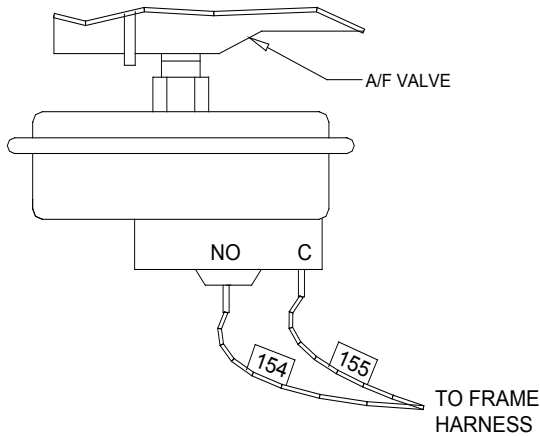

Figure 3.13
5. The blower proof switch closes, (See Fig. 3.13), and the LCD display will show PURGING.